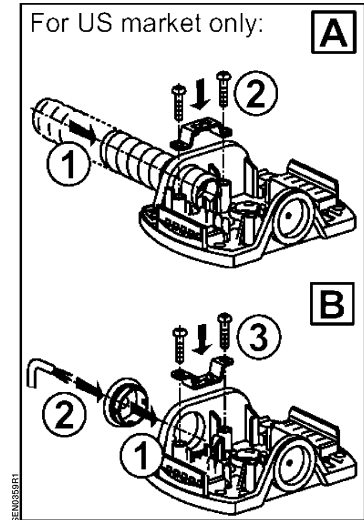

Figure 2. Field Wiring.
3. Pull the field wiring through the conduit and into the sensor base. See Figure 2.